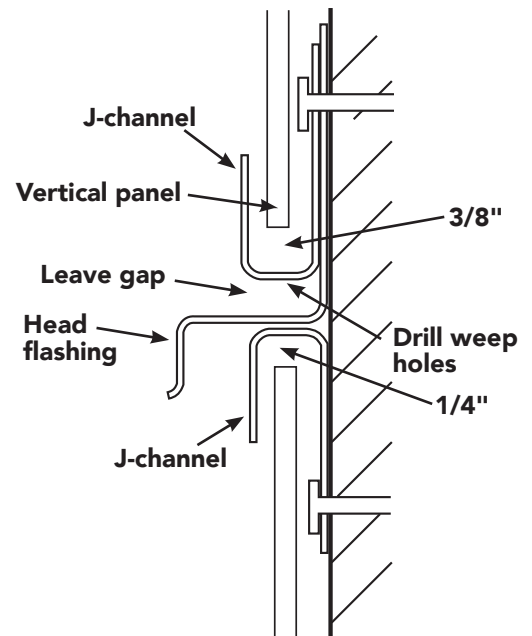
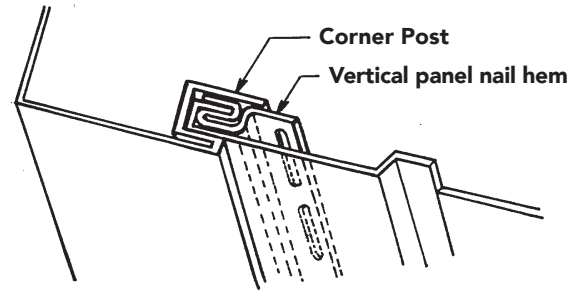

Figure 59
Figure 60
- If it will take more than one course to span the height of the house, terminate the first course into an inverted J-channel (Figure 59), allowing 1/4" (6.4mm) for expansion. Install head flashing on top of the J-channel and install a second J-channel facing upward. Begin the second course leaving a 3/8" (9.5mm) gap from the bottom of the panel to the J-channel.
NOTE: It is necessary to drill weep holes in the upper J-channel that are a minimum 3/16" (4.8mm) in diameter no more than 24" (610mm) apart (Figure 59).
- If you are starting with a full vertical siding panel, you can create a starter strip for vertical siding by cutting the nail hem and adjacent lock off a vertical siding panel. Fasten it inside the receiver channel of the corner post. Another option is to use a standard starter strip. Leave enough clearance in the pocket of the corner post to allow the siding panel to be attached (Figure 60).
- Begin by fastening J-channel along the inside edge of the roof. Install an upward-facing J-channel as a vertical base on top of the previously installed J-channel at the base of the gable, as shown in Figure 59. As an alternative, install back-to-back J-channels, centered with the peak of the gable. Install a cut nailing hem as a starter-strip in each J-channel, as described above (Figure 60).